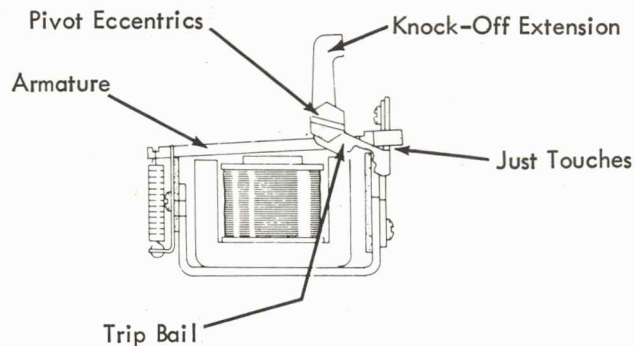

FIGURE 14. Pivot Eccentrics
6. Pivot Eccentrics (Fig. 14) - Adjust so that the cycle clutch trip bail is parallel to the armatures. The following procedure may be used:
If necessary, refine the pivot eccentric adjustment to obtain equal latch lever overthrow from the T2 and R5 armatures (Fig. 14). Adjustment No. 6, Page 1-4.